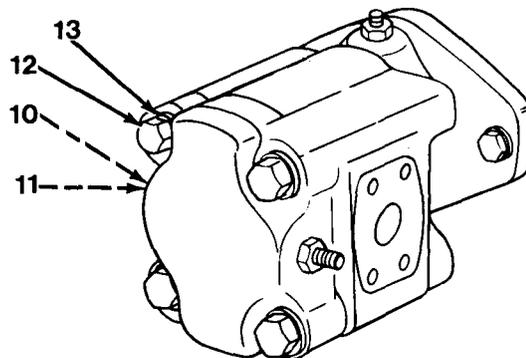

Figure 16-7
8. Remove drain plug (10) and O-ring (11, Figure 16-7) to drain hydraulic oil.